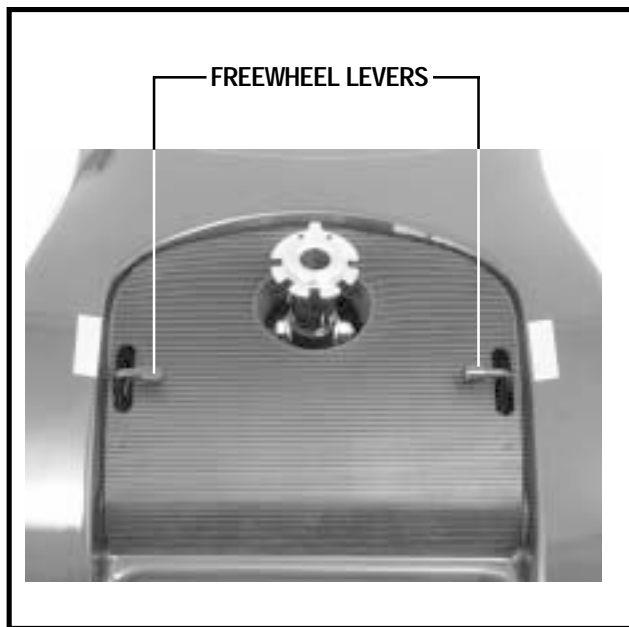

Figure 7. Drive Disengaged
For your convenience, your power chair is equipped with two freewheel levers located under the front of your seat. See figures 7 and 8. These levers allow you to disengage the drive motors and maneuver the chair manually.
1. Turn the freewheel levers inward to disengage the drive motors. See figure 7.